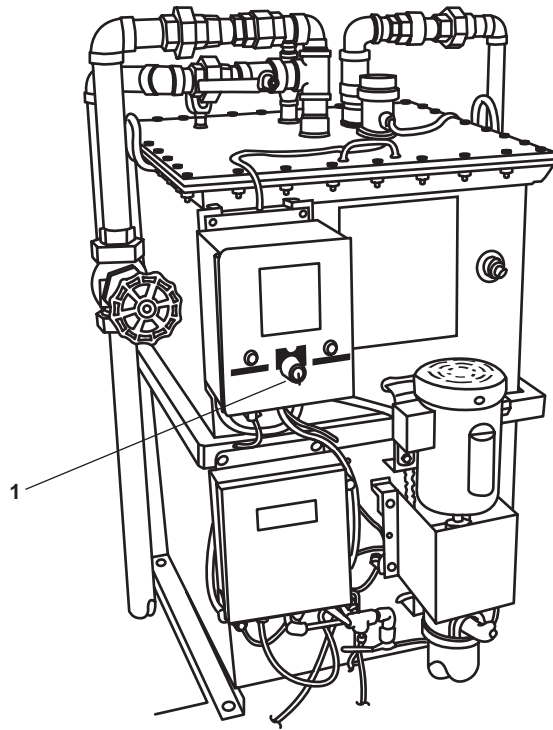

Figure 1. OWS Control Panel
1. Set the OWS control panel switch (figure 1, item 1) to OFF.